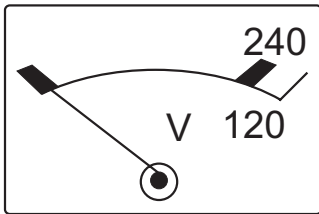

Figure 50. AC Voltmeter (Zero Volts)
7. Verify that the AC voltmeter (Figure 50) on the generator reads zero volts.